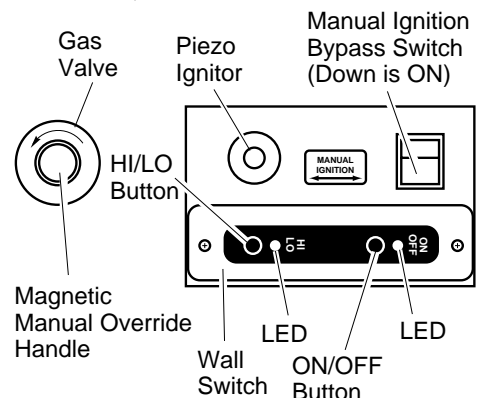

Figure 51 - Control Locations
- Set manual ignition bypass switch on control panel to ON position (manual ignition position). See Figure 51.
- Place the magnetic manual override handle, provided with this unit, on the end of the gas valve stem (see Figure 51).